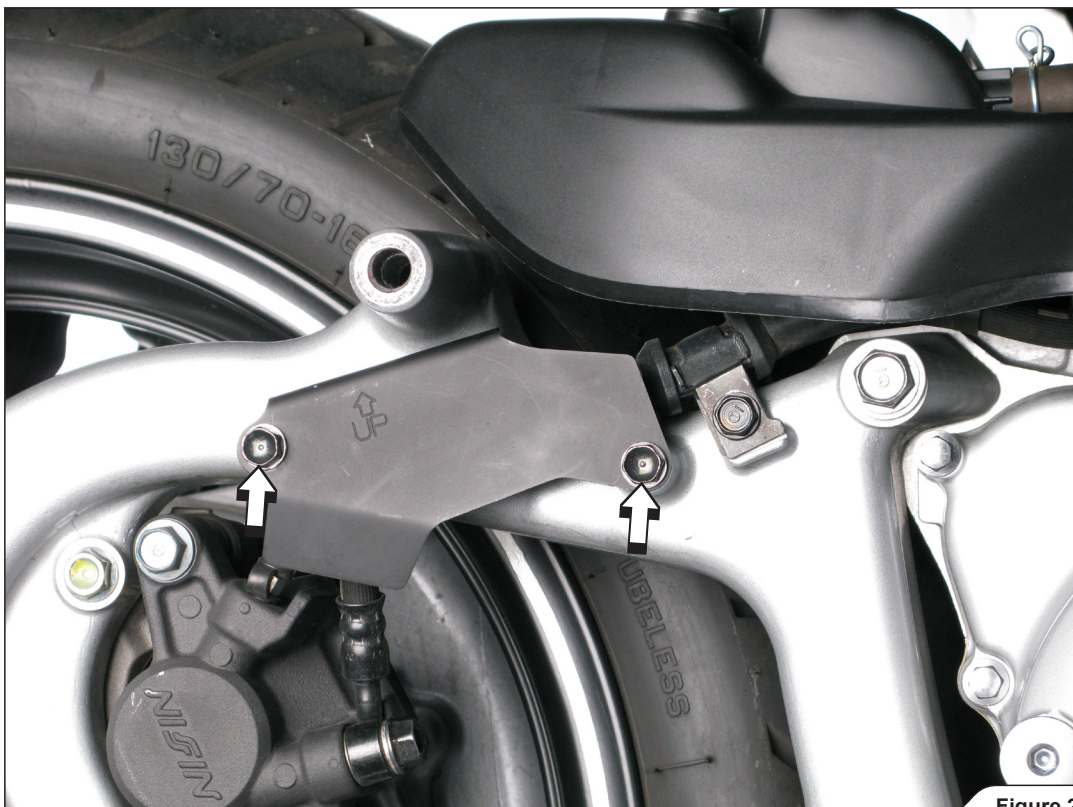

Figure 2
3. Unscrew the marked bolts and remove the break line heat shield (**Figure 2**).